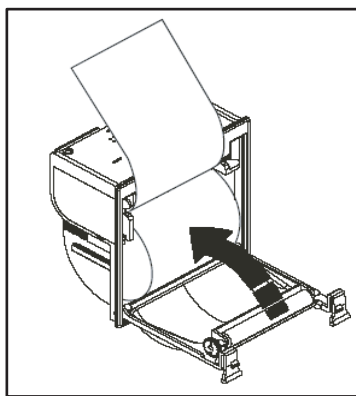

Fig. 30: Completing Installation
3. Pull the paper out of the housing as shown in Fig. 30 and close the lid.